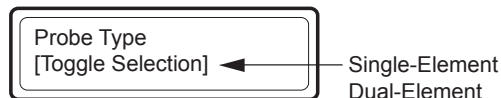

Figure C.3—Probe Type menu
1. Press the STEP and ENTER buttons simultaneously, then release to enter the configuration menu (Figure C.3).